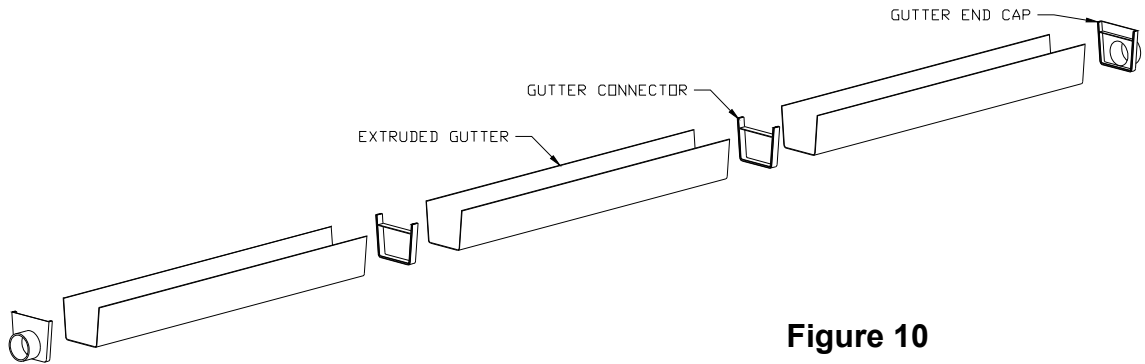

Figure 10
3. Locate the gutter sections and lay them out along the length of the framed opening (see Figure 10 to identify gutter parts).
4. Locate the gutter end caps and gutter connectors as shown in Figure 10.